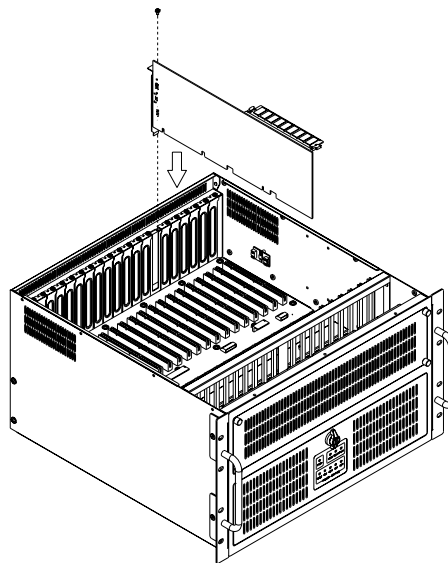

Figure 2.3 Installing a CPU card or a full-length add-on card
2. Insert the CPU card with CPU, CPU cooler, RAM, and necessary cables installed or add-on card vertically into the proper slot (See Figure 2.3). For CPU cards or full-length cards, please make sure that the card bracket has been inserted properly and the other edge of the card has been inserted into the plastic guiding fillister. Fasten the card by a screw on top of the I/O bracket.